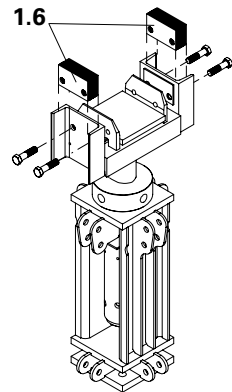

Fig. 13
4. Position remaining spacer plates (same number respectively) on the two outer sides of the fork head. Secure spacer plates using four bolts. (Fig. 13)